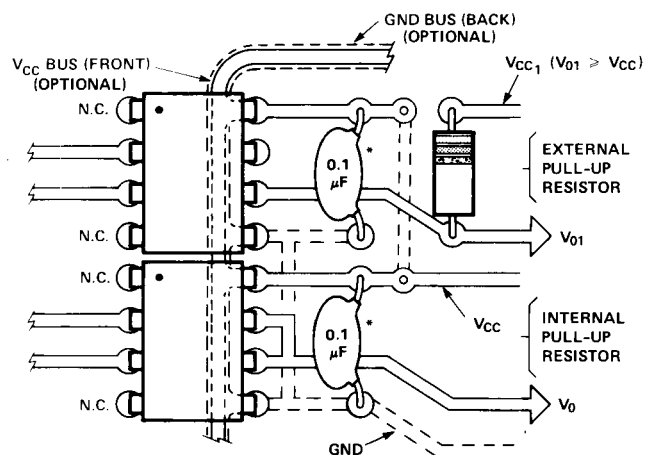

Figure 19. Recommended Printed Circuit Board Layout.
1. Bypassing the power supply line is required with a 0.1 μF ceramic disc capacitor adjacent to each optocoupler as illustrated in Figure 19. The power supply bus for the optocoupler(s) should be separate from the bus for any active loads, otherwise a larger value of bypass capacitor (up to 0.5 μF) may be needed to suppress regenerative feedback via the power supply.
or an external pull-up resistor and required V_{CC} bypass capacitor is given in Figure 19. V_{CC1} is used with an external pull-up resistor for output voltage levels (V_O) greater than or equal to 5 V. As illustrated in Figure 19, an